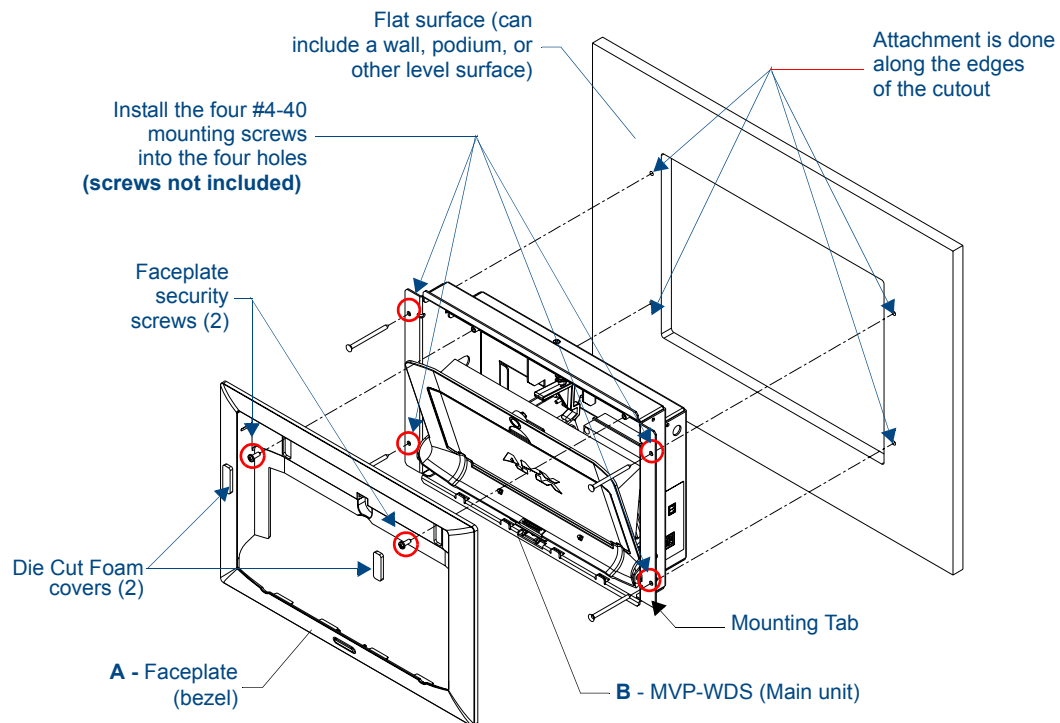

FIG. 13 MVP-WDS installation configuration for solid surfaces
6. Carefully insert the main unit into the cutout until the Mounting Tabs on the MVP-WDS lie flush against the wall (FIG. 13).